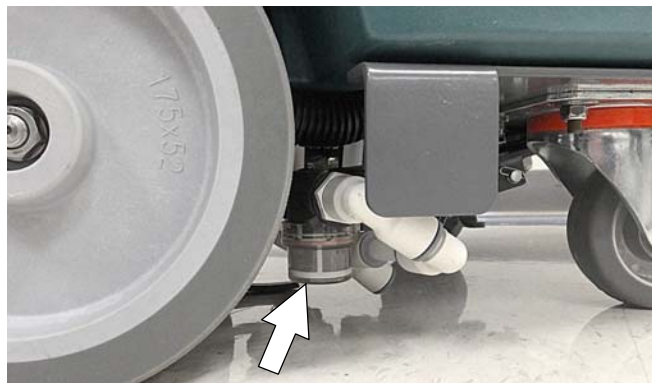

FIG. 99
2. Empty the water from the solution tank filter located under machine. Replace filter (Figure 99).